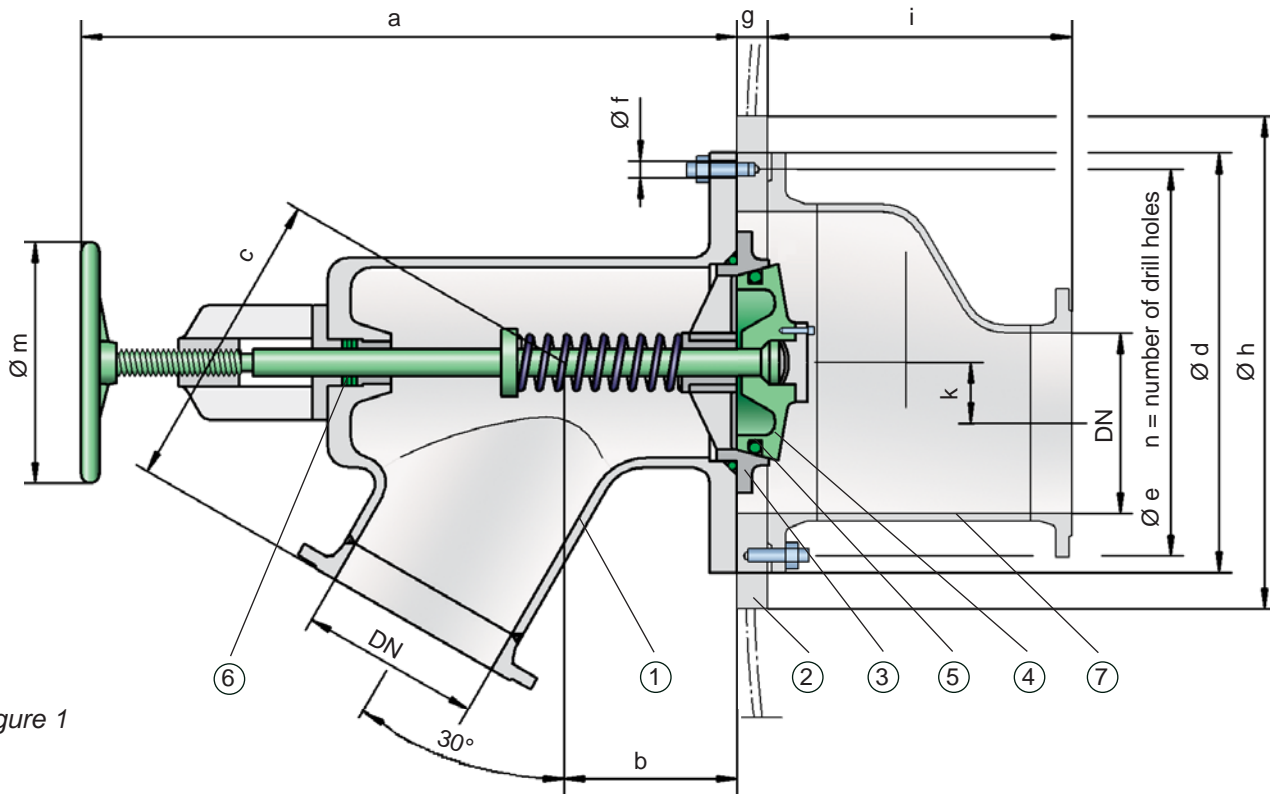

Figure 1
The internal safety valve SI/F (figure 1) consists of housing (1), mounting flange (2), valve seat (3), valve disc (4) and sealing (5). The mounting flange is welded into the tank shell. The valve seat is replaceable. The valve seat and valve disc have lapped metallic surfaces and an additional O-ring to ensure the required tightness. The spindle sealing (6) can be adjusted or replaced and is designed for a test pressure of 25 bar / 363 psi.